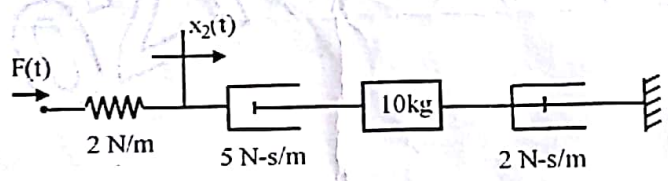

Fig. 1(b)
- Write equation of motion of translational mechanical system shown in fig. 1(b) and determine Transfer function. 9